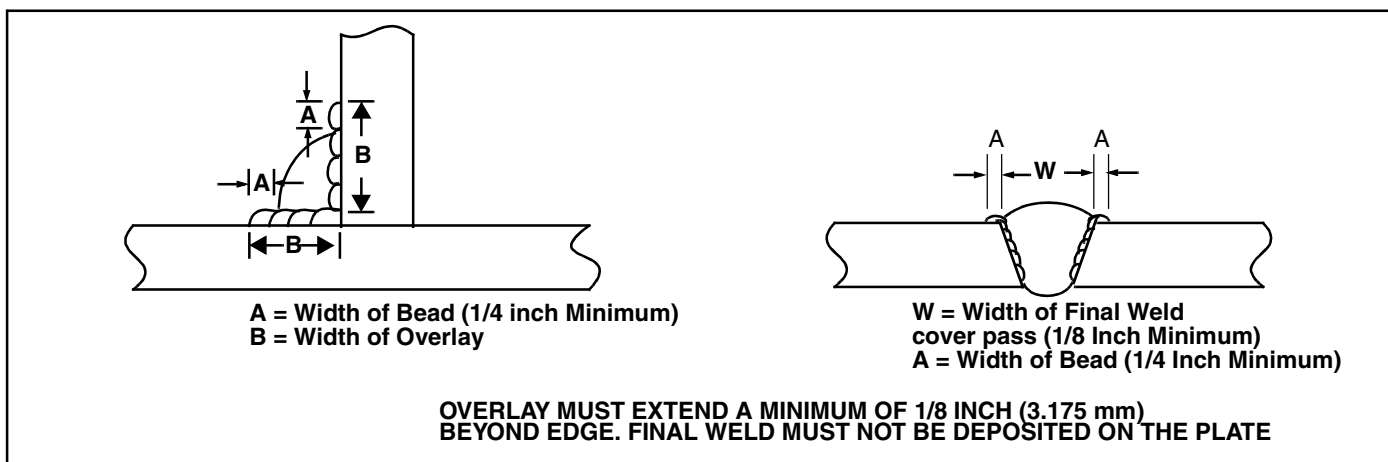

Figure 9-15 Buttering Sequence
3. Butter weld the sides of the groove prior to welding the groove joint. Put a single layer or buttering layer of weld metal on each side of the weld joint (See Figure 9-15). This does two things. First it puts weld metal on the joint when there is no restraint on it. The weld